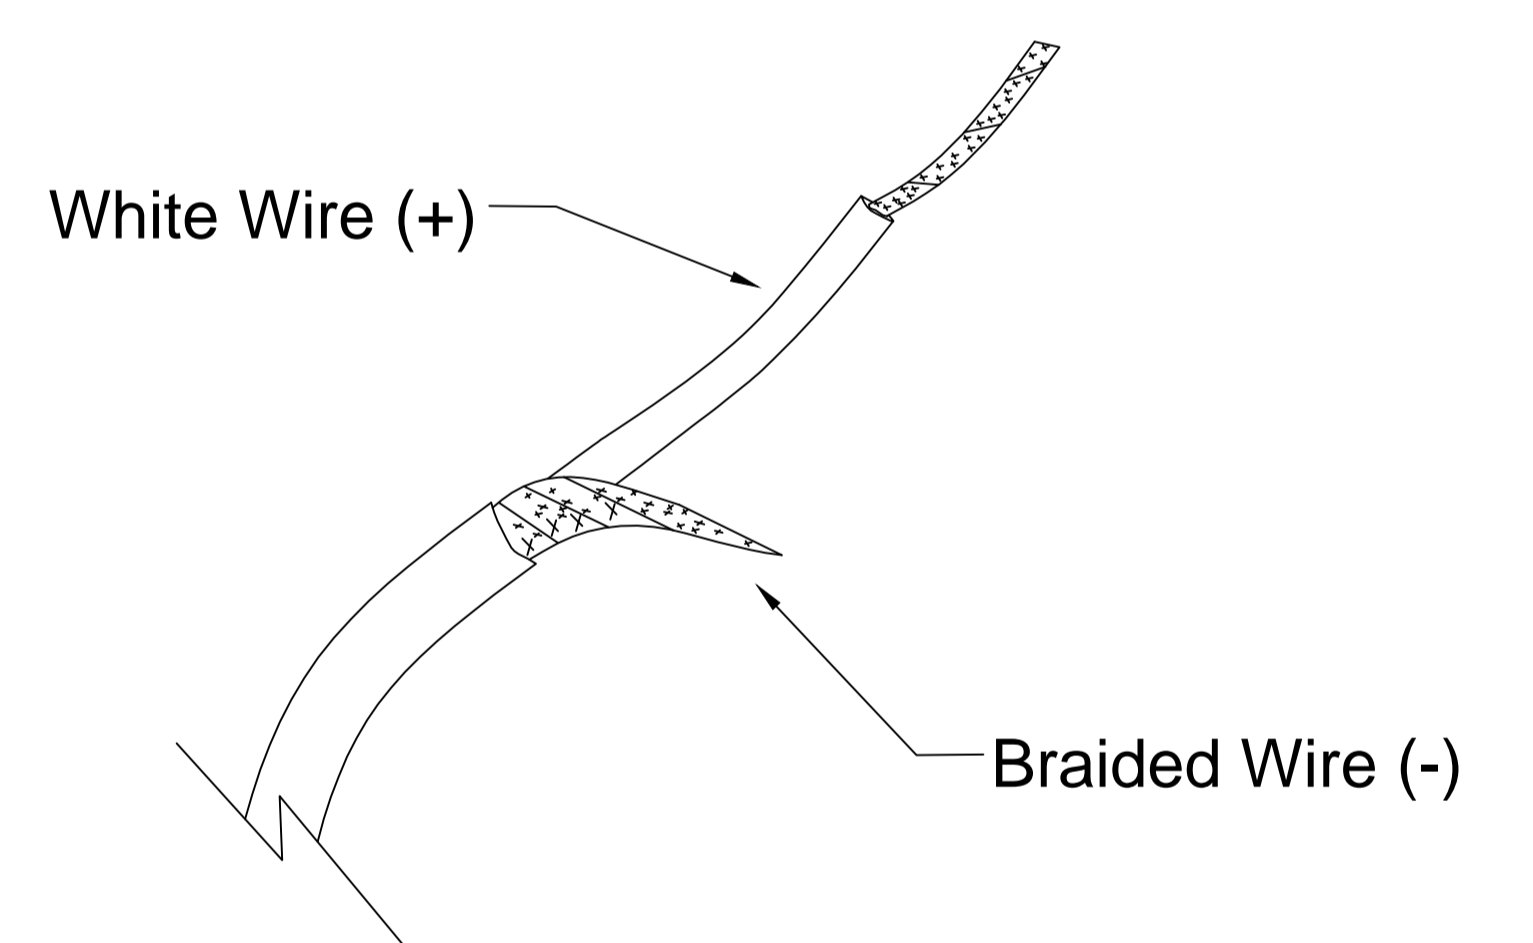

FIGURE-04
7. Strip the White Wire by $\frac{1}{2}$ " as well as to the Braided Wire (See Figure-04)